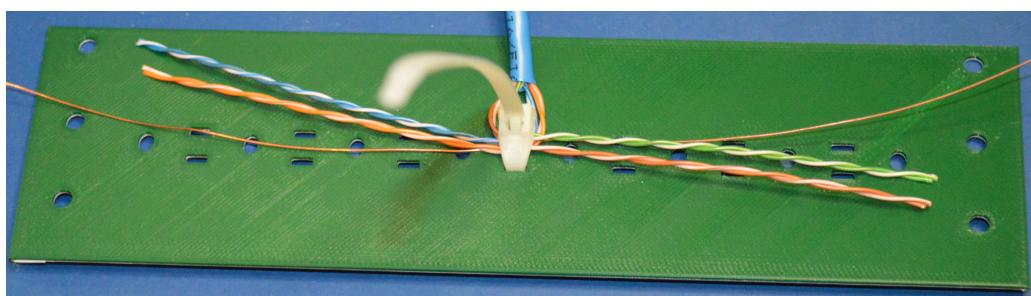

Figure 2.14: Attach the Cable to the Panel
- First using a cable tie, attach the cable to the panel. This helps to keep the cable from moving around while the LEDs are soldered. There is also a bare copper wire used as a ground/return wire for the LEDs. See Figure 2.14.